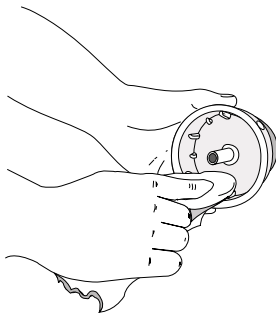

Fig. 30
4. Use a clean cloth to clean the the inner reel, spring, shaft, and inner surface of the outer spool (Fig. 30).